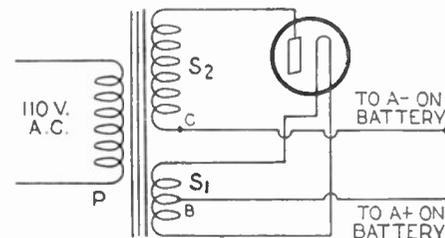

Fig. 155. Wiring diagram of a Tungar type battery charger, showing charging (S2) and filament (S1) windings of transformer.
A. 1. Fig. 155 is a schematic diagram which shows the electric apparatus and connections necessary to assemble a two-ampere battery charger, which will operate on the usual 110-volt A.C., 25 to 60 cycles. The diagram shows a transformer with three windings, which we will designate as P, S1 and S2. P is the primary winding and is connected to the 110-volt A.C. light socket. S1 is the filament secondary and supplies the power for heating the Tungar bulb filament. This winding is provided with a center tap B which is used as the positive lead for the charger. Winding S2 is the charger winding and supplies the necessary potential to operate the rectifier tube proper. Leads are taken out from points B and C and run, respectively, to the positive and negative terminals of the storage battery.